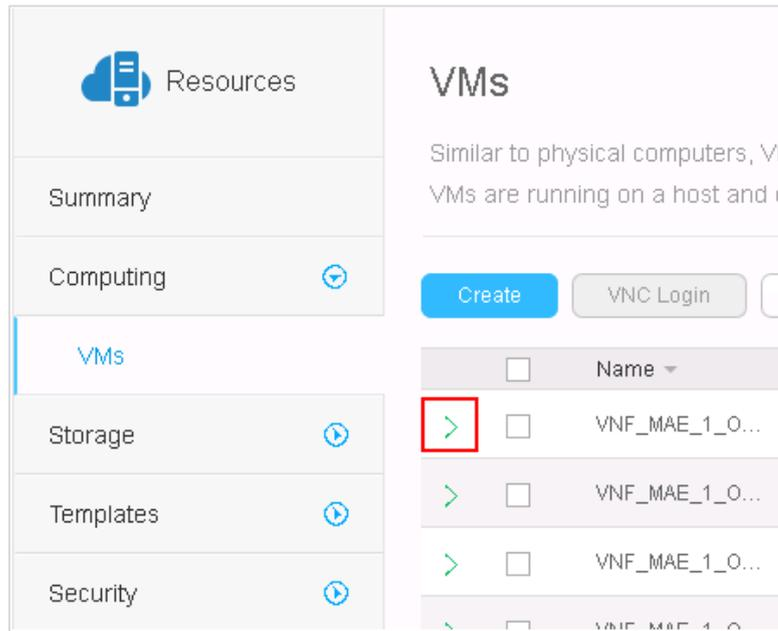

Figure 5-4 Viewing VM Information
- In the VM list, click to view the VM information, as shown in Figure 5-4.